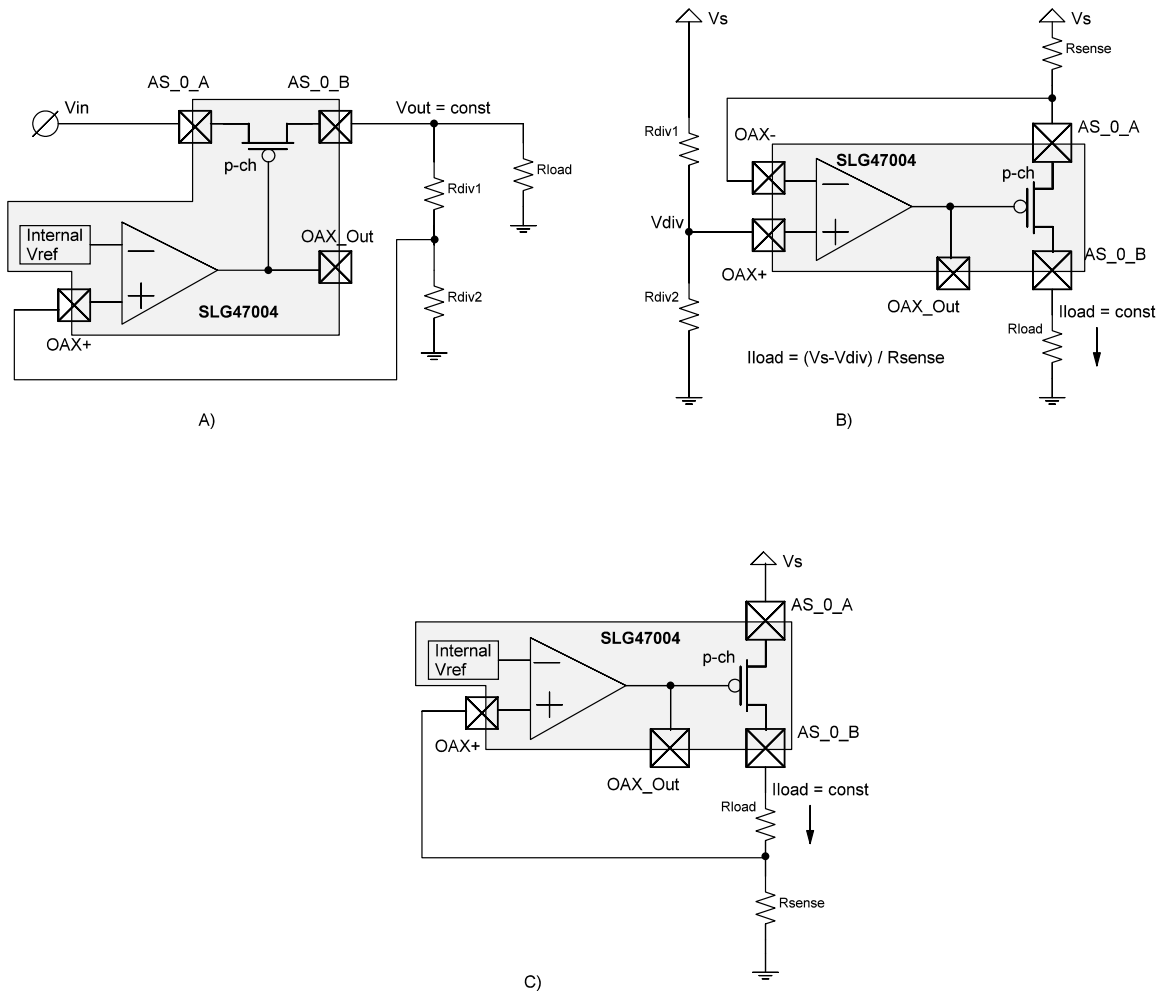

Figure 71: Typical Implementation of Voltage Regulator (A) and Current Sources (B, C)
In this mode, the op amp output drives P-FET (part of Analog Switch). Note that FETs of Analog Switches have different resistances. Analog Switch 0 has R_{ds_P MOS} << R_{ds_N MOS}, while Analog Switch 1 has R_{ds_N MOS} << R_{ds_P MOS}. That's why it is recommended to implement voltage regulator mode using Analog Switch 0. In this mode the op amp output is High when the macrocell is turned off. Figure 71 (A) shows the typical implementation of the voltage source function. Optionally, the
user can use this mode to implement a constant current source with load connected to ground (Figure 71, B, C). Note that op amp must operate in operational amplifier mode (register 750 = 0 for Op Amp0, register 751 = 0 for Op Amp1).